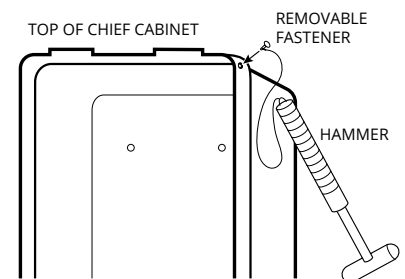

Figure 4: Hammer Assembly
2. If provided, attach break tool to cabinet as instructed on page 2 (figure 4).
1. Insert removable fastener (which is already attached to breaker bar or hammer) into pre-drilled 9/32" hole. When frame is placed on cabinet it will effectively lock the fastener in place (figure 4).